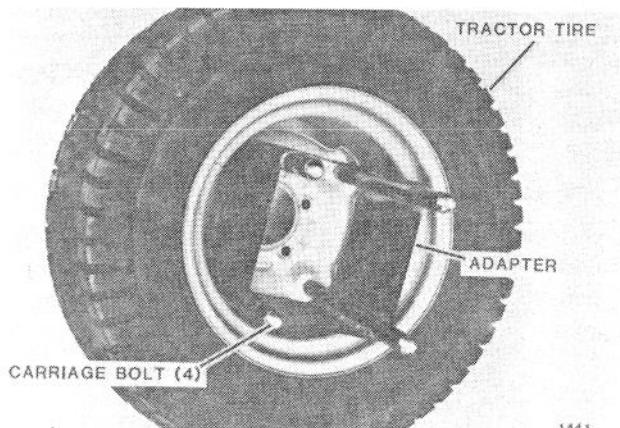

FIG. 1 Adaptor Position
3. Insert four carriage bolts through square holes in each tractor wheel rim (Fig. 1). Bolts go from inside to the outside of the rim.
4. Slide adaptors onto the carriage bolts (Fig. 1).